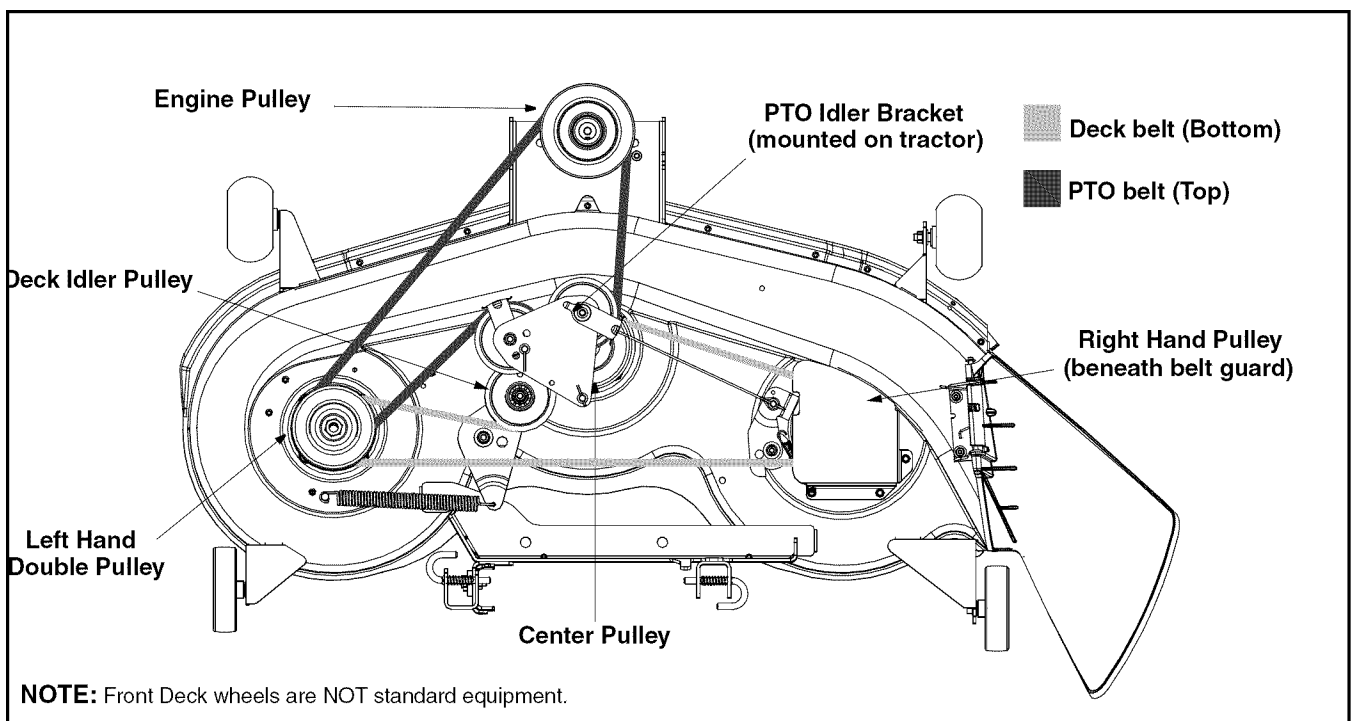

Figure 18
- Remove the PTO belt from around the tractor's engine pulley and idler pulley(s). Refer to **Changing The Deck Belt & PTO Belt** and Figure 18.
- Route the new belt(s) (**deck belt first**) as shown in Figure 18.